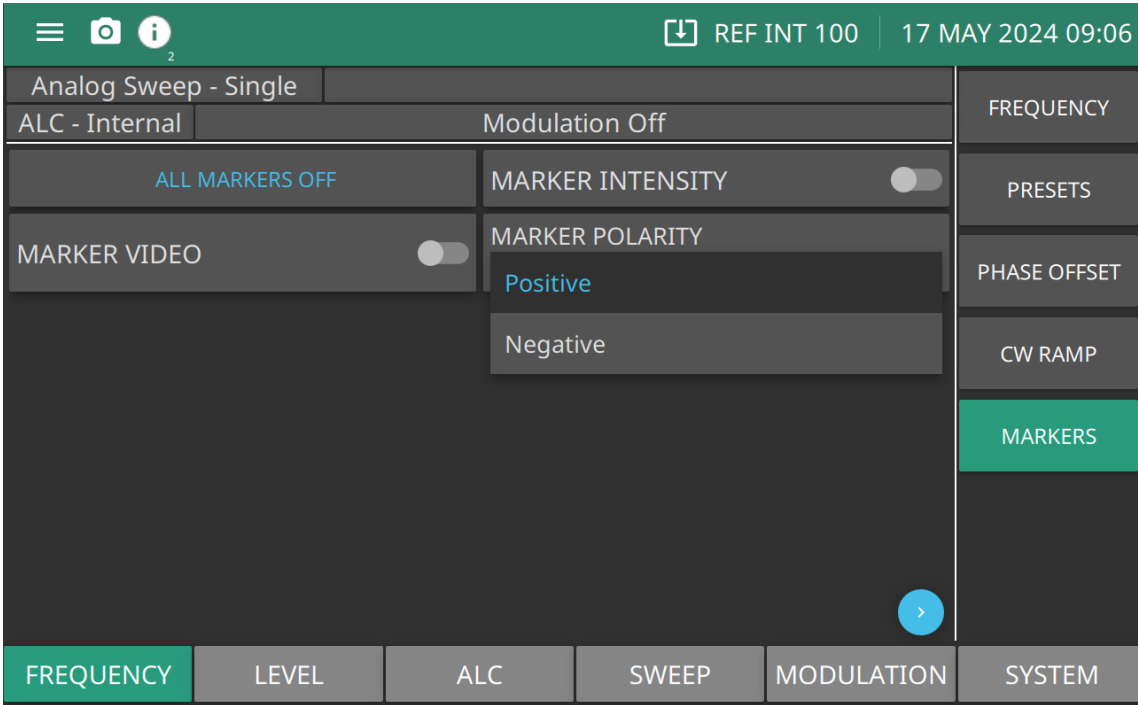
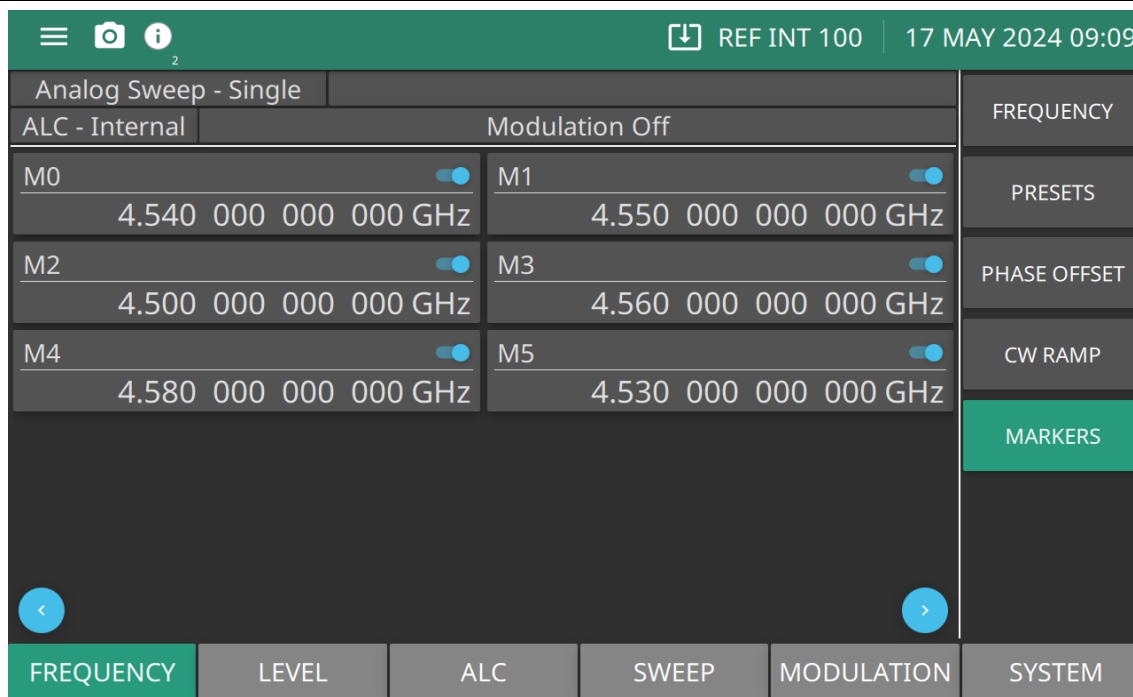

Figure 3-8. MARKER POLARITY
Figure 3-9. Markers - M0 to M5
- MARKER POLARITY:** Provides the a +5 V or a –5 V pulse. Set polarity as shown in Figure 3-8.
Use the blue arrows as shown in Figure 3-8 to scroll the page to the right. There are totally 10 markers available. Press M(x) toggle to turn on the marker and enter a desired frequency to set the marker frequency. Turn on the desired marker toggle to see the marker. Press the “Page Arrow” button on the right as shown in Figure 3-9 to scroll to the page to the right, to view markers M6 through M9 as shown in Figure 3-10.